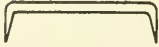

Fig. 180
67. Dogs, which are merely short iron rods with the ends pointed and bent at right angles to be driven into the wood, are often used in heavy construction. If the pointed ends slant outwards slightly, they will tend to draw the pieces together (Fig. 180).